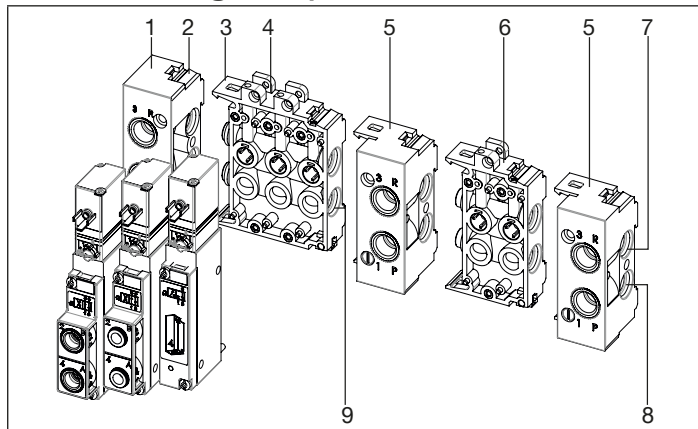

Fig. 6: Example of a multi-block
- Begin installation with connection module on the left (see “Fig. 6”)